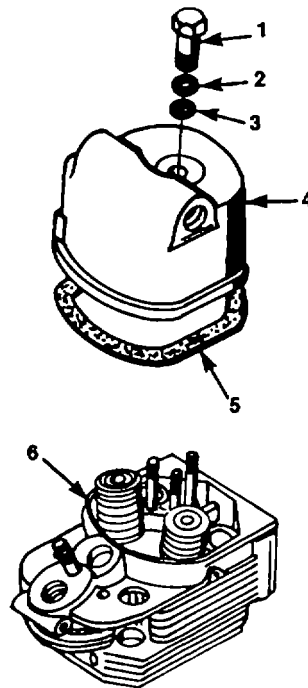

Figure 3-20. Cylinder Head
- a. Remove bolt (1), washer (2), and seal (3) (figure 3-20).
- b. Remove cover (4) and gasket (5) from head (6). Replace gasket if damaged.